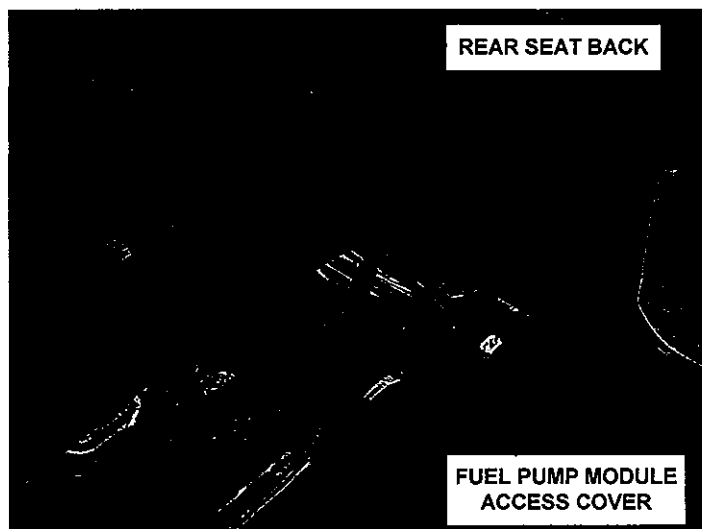

Figure 1 – Access Cover Location
4. Remove the black plastic fuel pump module access cover (Figure 1).